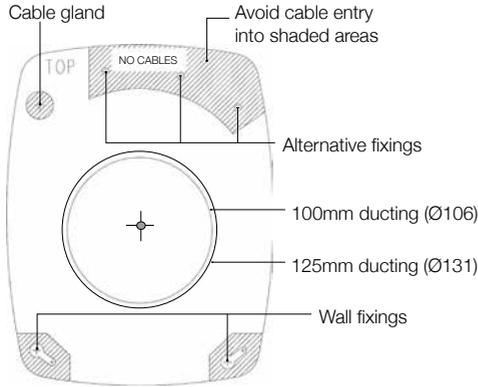

Fig.1
1. Loosen the two plastic screws and remove front cover. (Fig 1.)